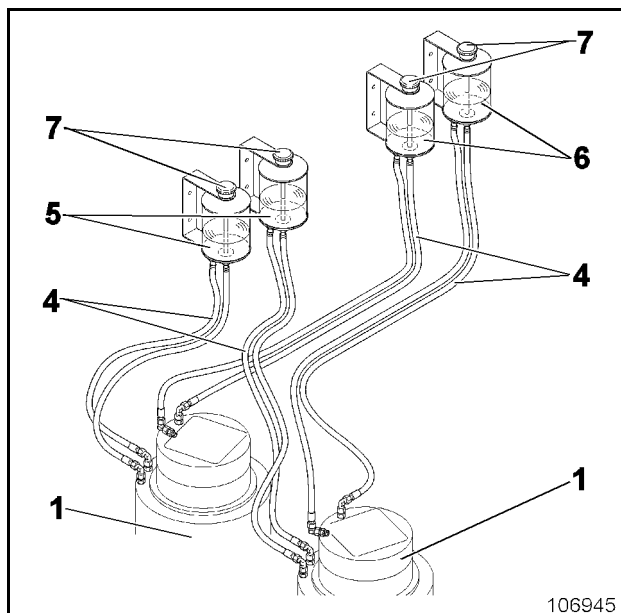
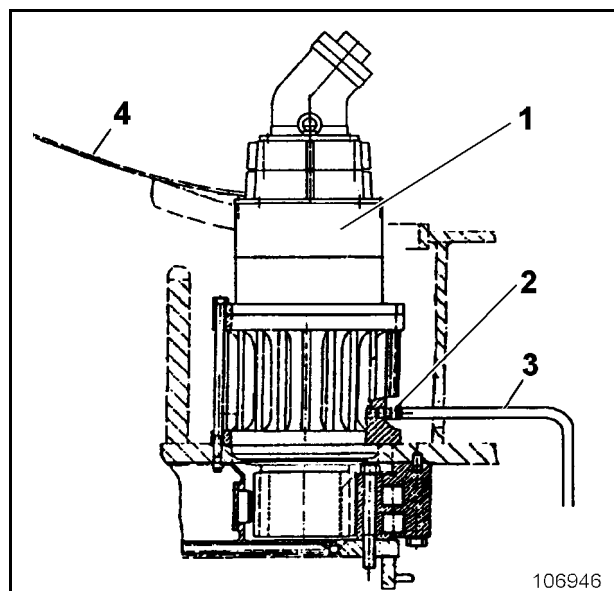

Fig. 3-118:
Fig. 3-119:
➤ Check the oil level visually at expansion tanks (5 and 6, Fig. 3-118:). The expansion tanks must be filled with gearbox oil up to abt.  $\frac{1}{3}$ . The oil level is visible from outside (light/dark area).
The hoses (4, Fig. 3-118:and Fig. 3-119:) connect the gearboxes (1) with the expansion reservoirs (5 and 6).